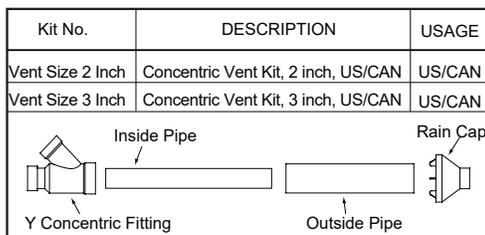

Fig.7-12 Kit Components
Consult your furnace installation instructions for the allowable length and size of the plastic vent pipe. The concentric vent termination assembly is equal to 4 feet of 3" inlet and outlet pipe, or 3 feet of 2" inlet and outlet pipe. The concentric vent termination kit is shipped assembled but not cemented. Disassemble the kit and cement as shown in Fig.7-12.
- Partially assemble the concentric vent termination kit as shown in Fig.7-12 and 7-13. a. Cement Y concentric vent fitting to larger diameter kit pipe. See Fig.7-12. b. Cement rain cap to smaller diameter kit pipe. See Fig.7-12.
- Partially assemble the concentric vent termination kit as shown in Fig.7-12 and 7-13. a. Cement Y concentric vent fitting to larger diameter kit pipe. b. Cement rain cap to smaller diameter kit pipe.